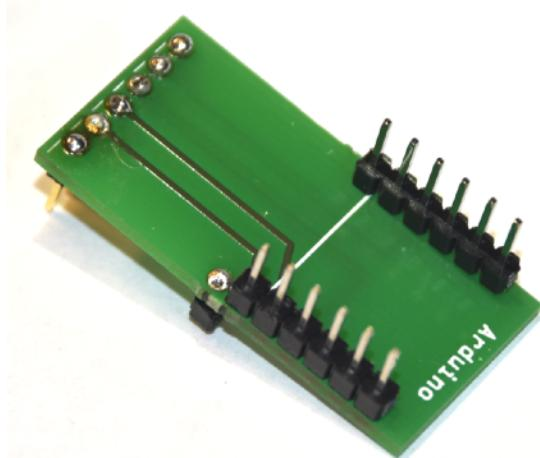

Figure 15: circuit board with pin headers
**Notice!** The single pin is for stability reasons only. Its free end has to be cut right above the plastic coating.(Figure 15)